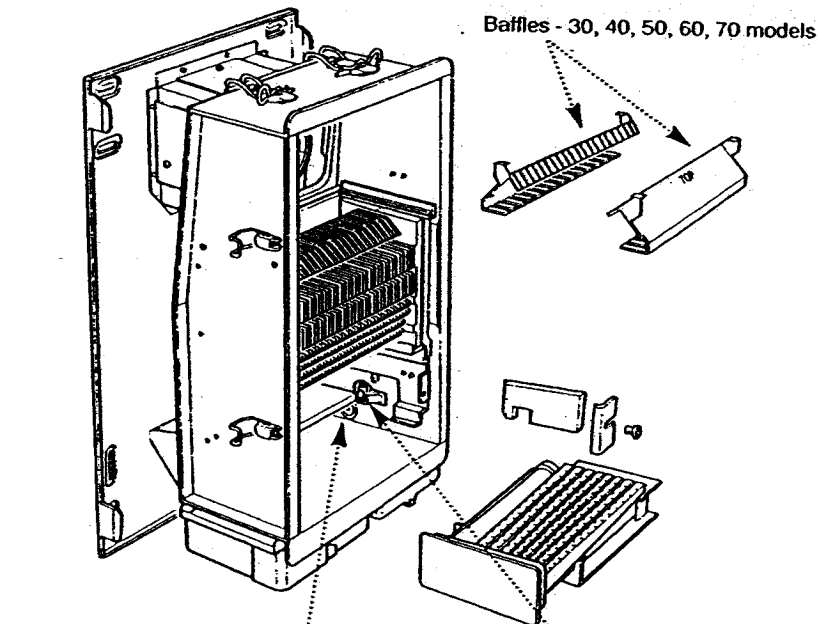

Fig. 94
1. Remove the burner assembly by pulling it forward (Fig. 94).
3. Lift the baffles out of the heat exchanger, using the corner tabs on 30,40,50,60,70 models (Fig. 94).
3. Remove the right hand side insulation carrier bracket by releasing the screw. Remove the side insulation (Fig. 94).